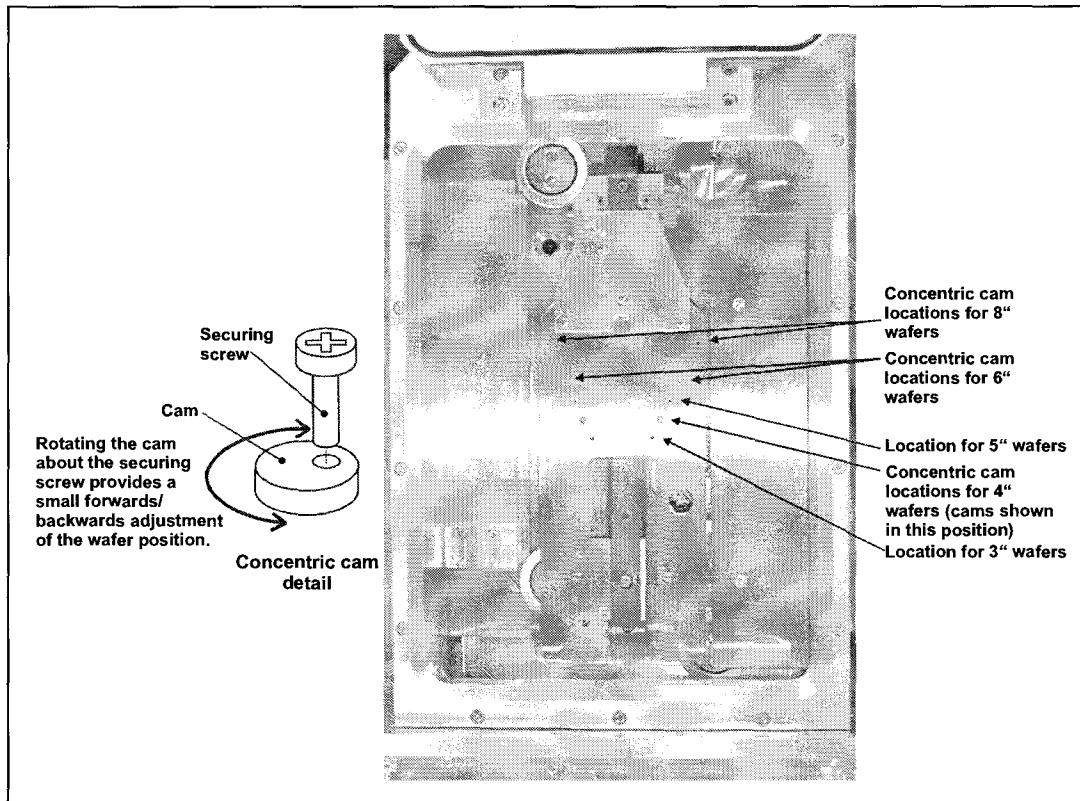

Fig 6.3: End effector wafer size adjustments
The automatic load lock end effector can accommodate wafer diameters of 3" to 8". This is achieved using a series of pairs of holes appropriately spaced for the different wafer sizes into which concentric cams are secured. See Fig 6.3.
- 3) Wearing powder-free gloves, remove both concentric cams/securing screws from the end effector, then fit them into the appropriate holes for the wafer size to be processed. See Fig 6.3.